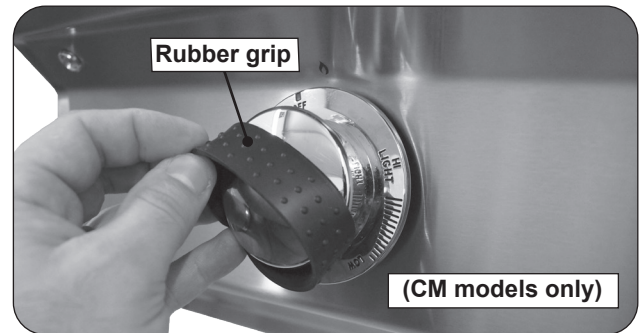

Fig. 37-1 Rubber grips removal (if applicable)
2. For CM models, remove the rubber grip from a control knob (see Fig. 37-1).